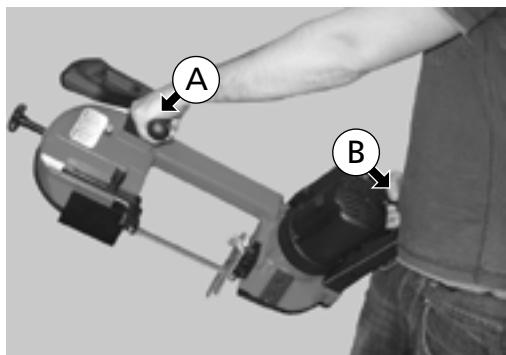
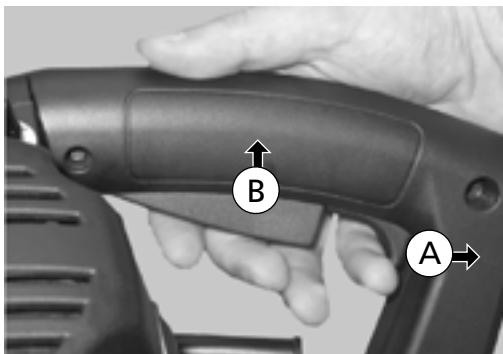

Fig. 42
Fig. 43
To perform a manual cut with the band saw in portable mode, grab the upper handle with your left hand and the lower handle with your right hand (Fig. 42).
Elements of Fig. 42
With the band saw held as previously illustrated (Fig. 42), first press back the unblocking actuator (A) and then raise the start up actuator (B). Both triggers are located on the lower handle (Fig. 43).
Elements of Fig. 43